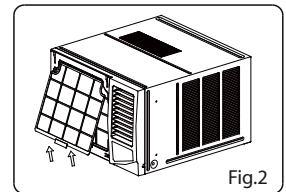

Fig.2
3. Grip the tab on the end of the filter, lift it up, then pull it towards yourself, pull the filter out(see Fig.2)
(See Fig. 2)